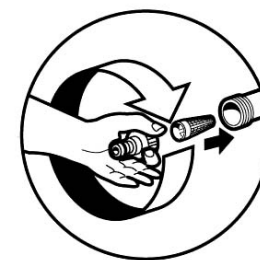

Fig. 5
1. Attach the male adapter (supplied) to the water intake connector on the left hand side of the unit. (Fig. 5)
2. Attach the female hose coupling to the garden hose. (Fig. 5)
3. Connect the female hose coupling to the male adapter making sure that it is tightly secured in place. (Fig. 5)